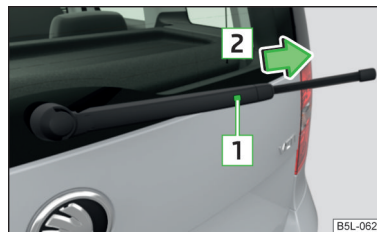

Fig. 192
- Lift the wiper arm away from the window » Fig. 192.